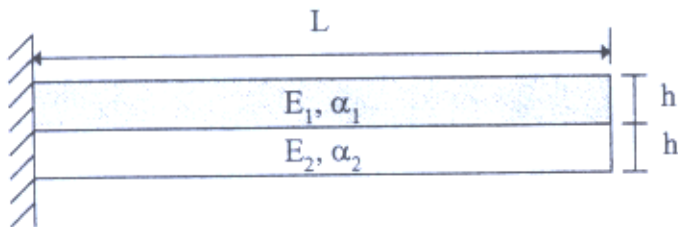

Fig. 1
1. A thermostat consists of two strips of different materials bonded together at their interface. Frequently this configuration takes the form of a cantilever beam, as shown in Fig. 1. If E_1 and E_2 denote the Young's modulus and α_1 and α_2 denote the coefficient of thermal expansion of the two materials, each of thickness h and width b . (25 Points)